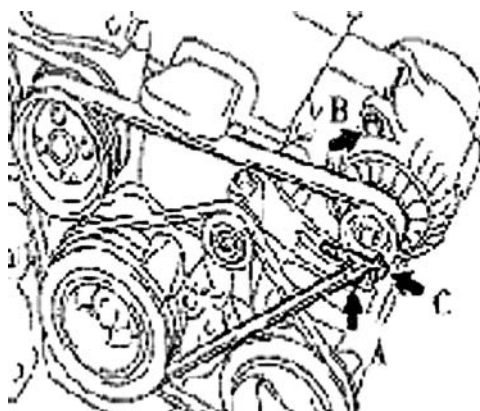

Figure 6
4. Remove water pump belt See (Figure 6)